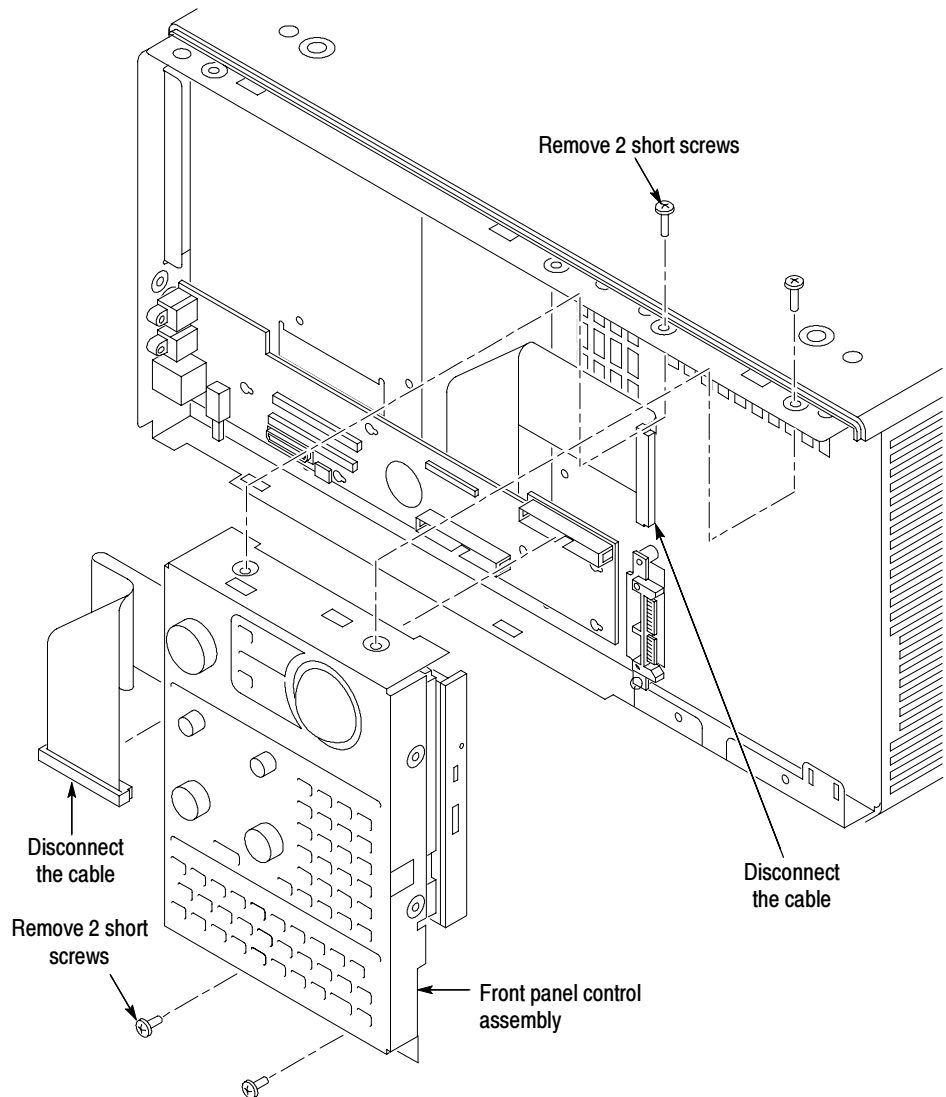

Figure 3: Front-panel control assembly removal
2. Remove the four screws that attach the front panel control assembly to the mainframe (See Figure 3).